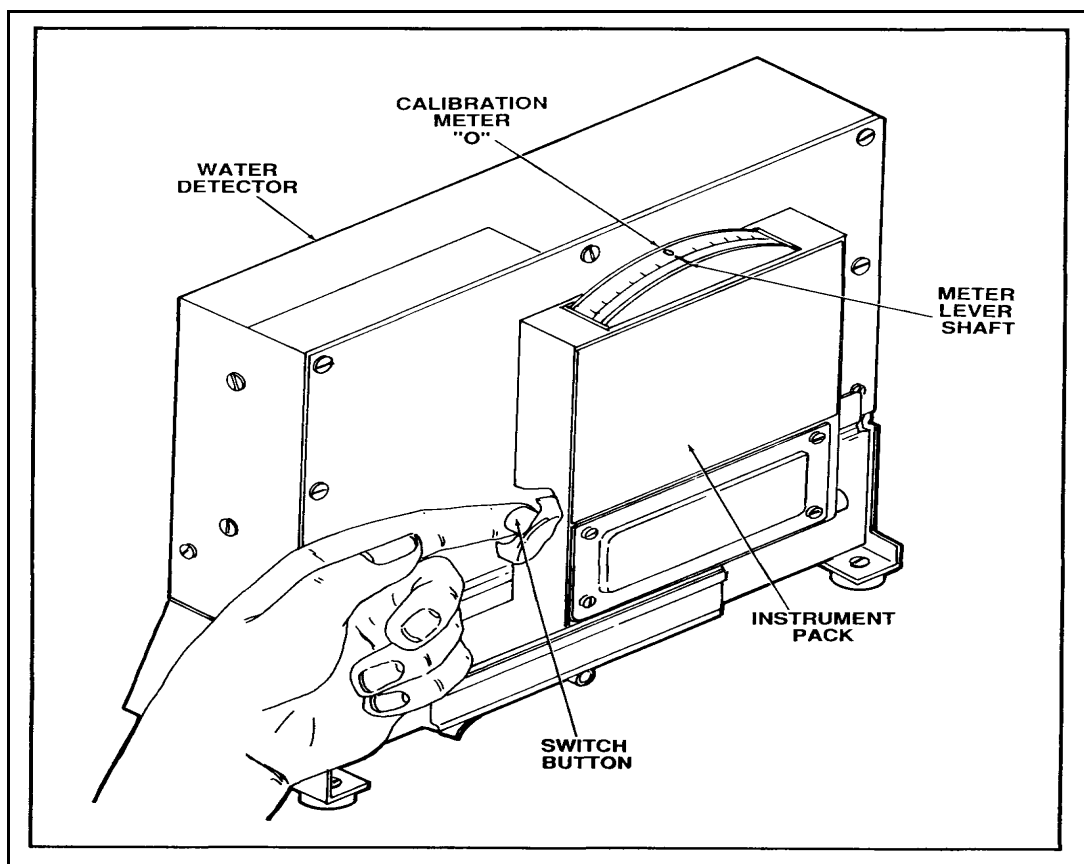

Figure E-6. Calibration meter lever shaft reading "0"
- Depress the switch button on the instrument pack and read the calibration meter. If the meter reads "0," the water detector is calibrated as shown in Figure E-6, page E-5. If the meter reads any increment other than "0," you must adjust the internal calibration screw until the water detector is "zeroed-out."